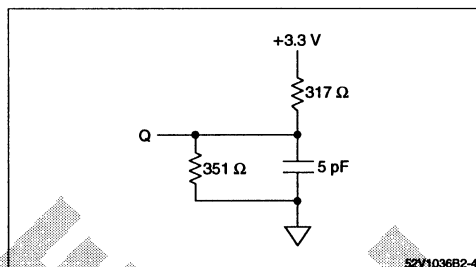

Figure 4. Output Load Equivalent
- Output loading is specified with CL = 5 pF as in Figure 4. Transition is measured ±500 mV from steady state voltage.